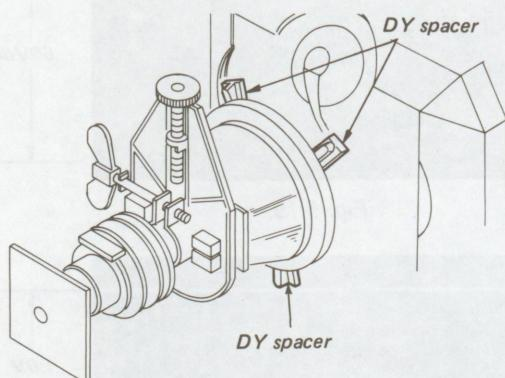

Fig. 5-12.
1) The adjustment should be done by moving the deflection yoke and the yoke should be fixed with the DY spacers after the adjustment. (See Fig. 5-12.)